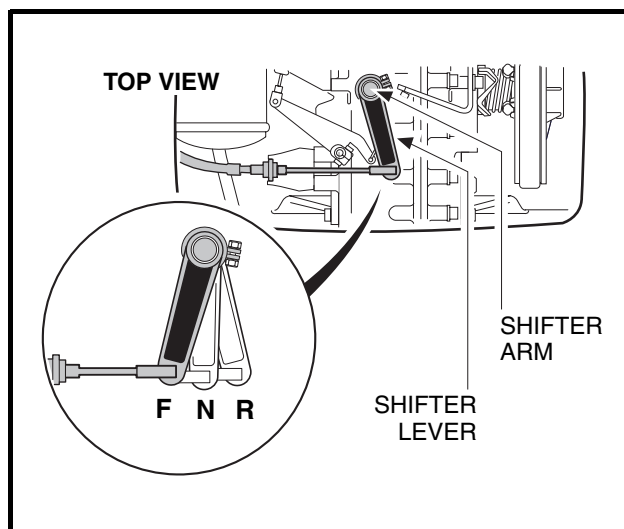

Figure 16-1 Shifter Positions
A shifter lever, connected to a shifter arm, is used to change the gears to one of three shift positions: FORWARD (F), NEUTRAL (N), or REVERSE (R) (**Figure 16-1, Page 16-1**). Bring the vehicle to a complete stop before changing FORWARD or REVERSE direction.